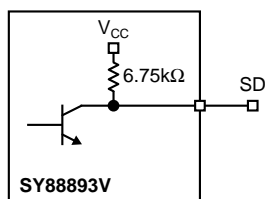

Figure 4. SD Output Structure
The SY88893V generates a chatter-free SD open-collector TTL output with internal  $6.75\text{k}\Omega$  pullup resistor as shown in Figure 4. SD is used to determine that the input amplitude is large enough to be considered a valid input. SD asserts high if the input amplitude rises above the threshold set by  $\text{SD}_{\text{LVL}}$  and deasserts low otherwise. SD can be fed back to the enable (EN) input to maintain output stability under a loss of signal condition. EN deasserts the true output signal without removing the input signals. Typically 6dB SD hysteresis is provided to prevent chattering.